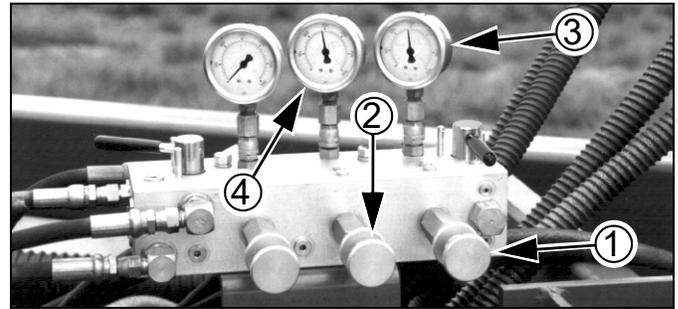

Figure 33
**Refer to Figure 33**
Refer to Figure 33